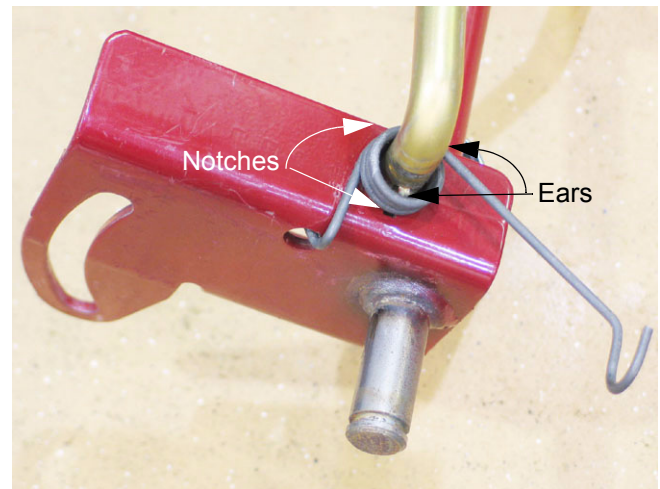

Figure 5.15
- 5.15. On the bench, the lift lever can be rotated in its mounting hole in the lift shaft assembly to relieve the torsion spring tension and align the coined "ears" on the lever with the notches in the bracket, so that it may be removed. See Figure 5.15.